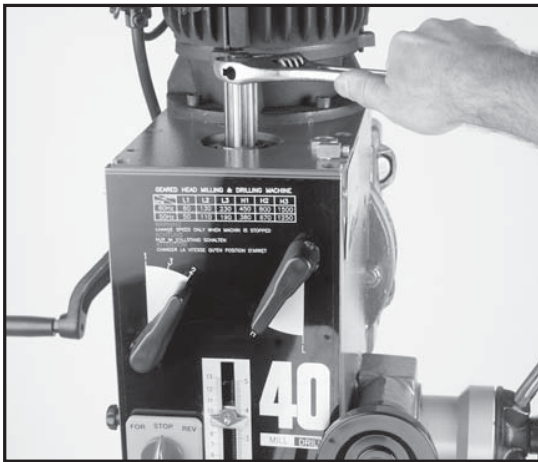

Figure 3
2. Attach the clamping bracket provided with the auto-feed mechanism, as shown in Figure 3.
3. Turn the hex head at the top of the drawbar clockwise until the threads at the bottom of the drawbar mesh with the female threads in the top of the collet or arbor. See Figure 3.
### CLAMPING TABLE BASE AND MACHINE BASE (See Fig.3)